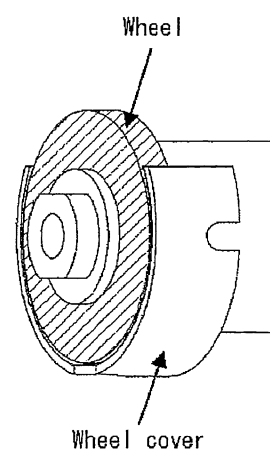

Fig.13
- Attach the opening of the wheel cover upward. (As shown in Fig.13)